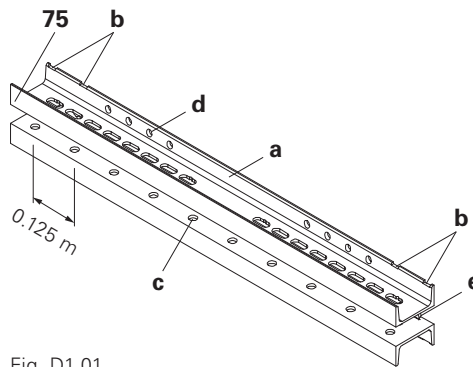

Fig. D1.01
- reinforced spacer plates only at front (e) (Fig. D1.01)